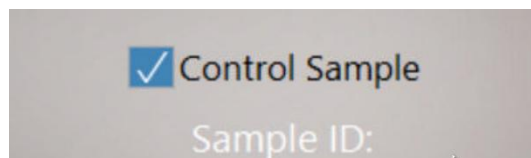
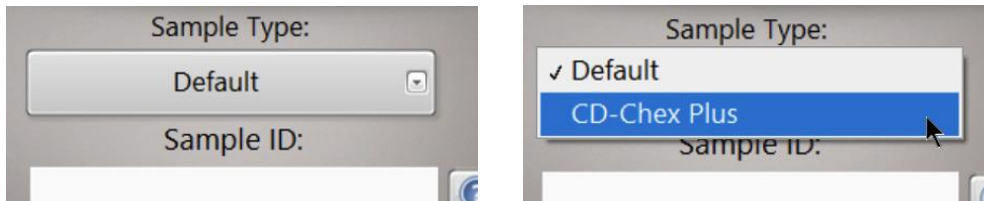

Figure 41: Control Sample Button
Figure 42: Alternate Auto-classification Dropdown Menu Options
**Note:** Instruments running software version 3.9.2 may be configured to allow for a “Control Sample” to be run. If the sample is a control sample, then ensure the checkbox is marked (as seen in Figure 41).
**Note:** In addition, some instruments running software version 3.9.3 or above, may have the option to select a different auto-classification (similar to Control Sample in Figure 41). In this case, a dropdown menu will appear above the Sample ID field allowing the user to select an alternate auto-classification to run (see Figure 42).